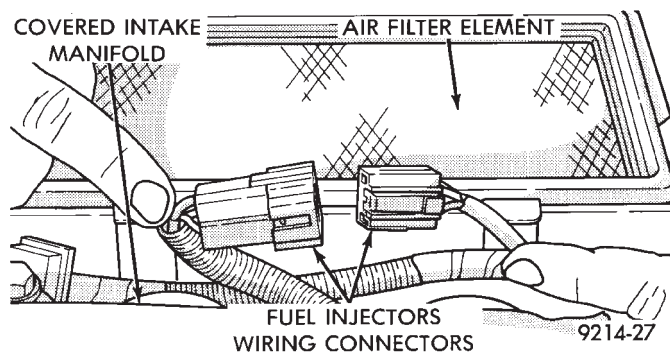

Fig. 13 Fuel Injector Wiring Harness
(17) Disconnect fuel injector wiring harness from engine wiring harness (Fig. 13).